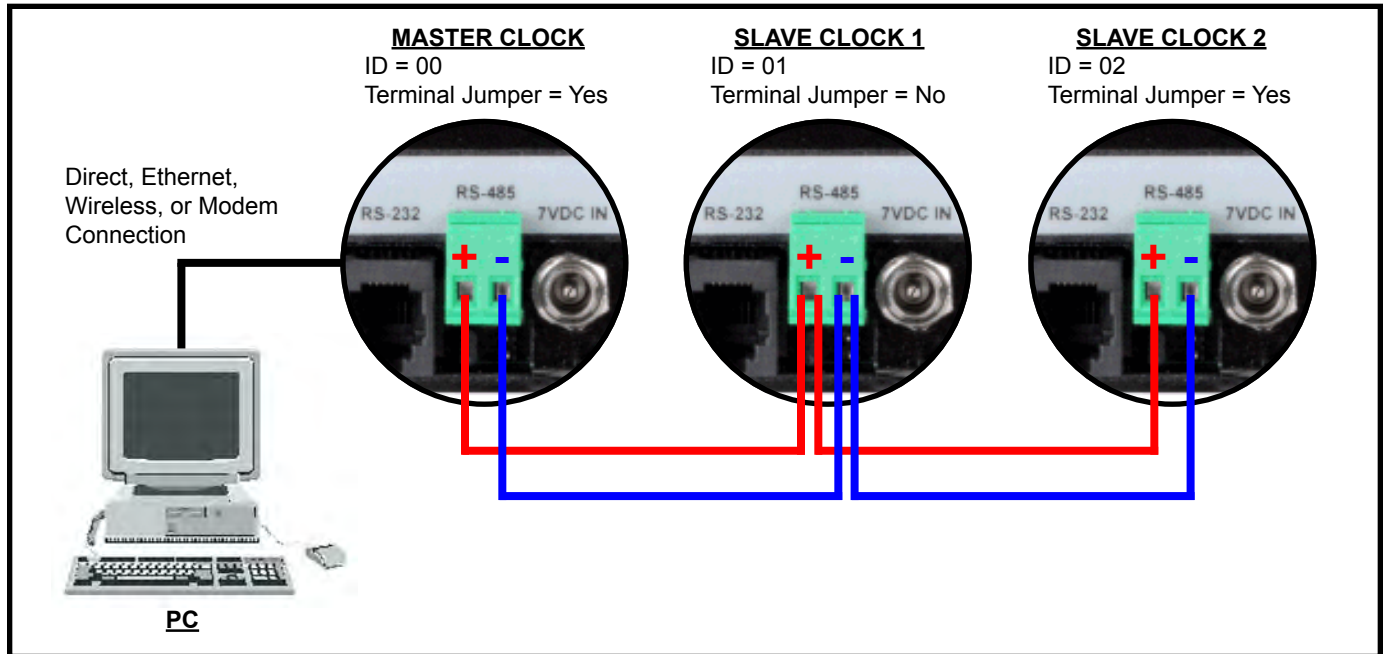

Figure 14. Connecting 3 Smart Clocks in a daisy-chain
The RS-485 interface built into the Smart Clock allows the user to daisy chain up to 32 clocks. The RS-485 interface requires standard 18 gauge wire routed from the master clock's RS-485 terminal and through the rest of the clocks on the daisy chain. The left terminal on the green RS-485 terminal block is positive (+) and the right terminal is negative (-) (see Figure 14).
- IV. Each clock must have a different ID number. Begin with setting the master clock's ID to 00 and count your way up with the slave clocks (see Figure 14). Please refer to the "SETUP MODE" section on page 9 for more details.
- VIII. Use 18 gauge wire to connect all Smart Clocks in the same manner as illustrated in Figure 14. Color coded wire is recommended maintain polarity and ensure successful communication.